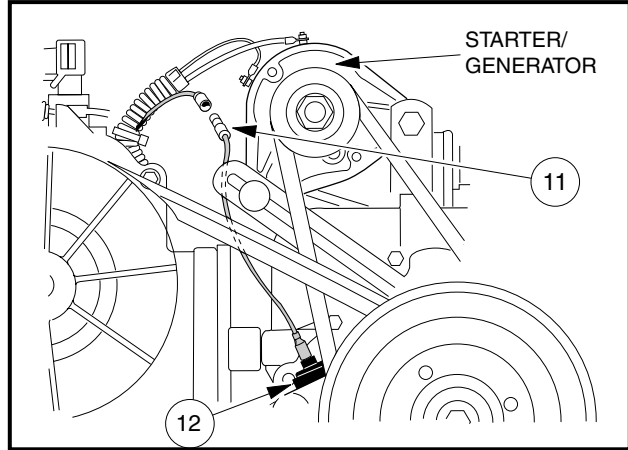

Figure 13-45 Oil Level Sensor Wire
1. Remove yellow jumper wire (11) from cord connector (12) (**Figure 13-45, Page 13-24**).